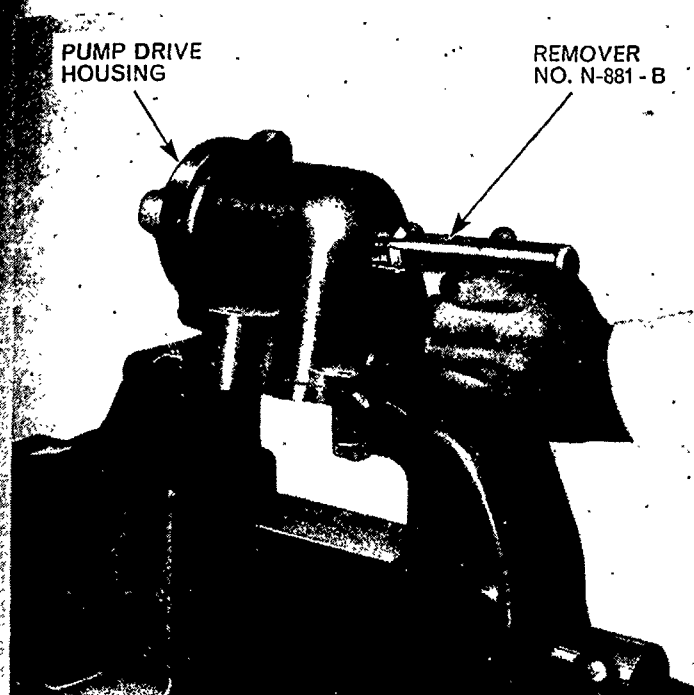

Figure 88
- c. Using a soft headed hammer together with a suitable drift and Adaptor No. 630-3 remove the bearing. Alternatively use Remover No. N-881-B, Figure 88.